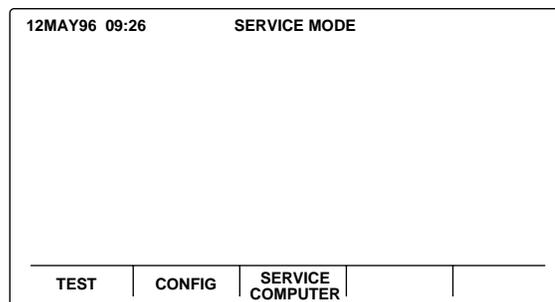

Figure 3-2: Service Mode Main Menu Screen
3. The words "SERVICE MODE" are displayed on the top center of the screen. The current date and time are displayed in the upper left-hand corner of the screen as indicated in Figure 3-2.